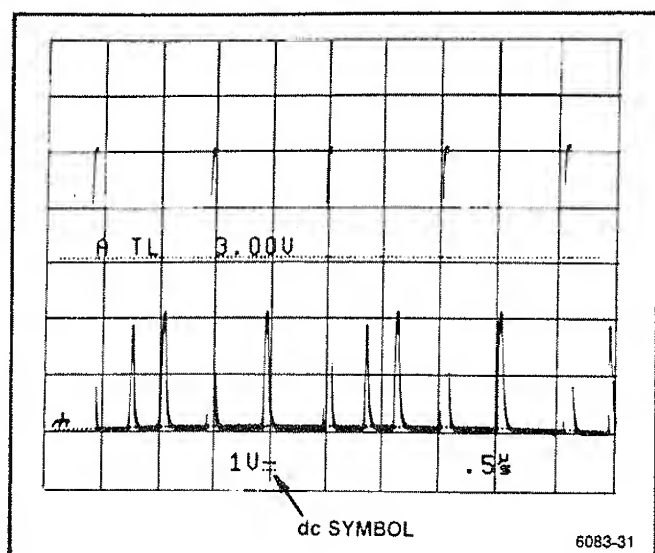

Figure 6-17. Setting a specific Trigger LEVEL.
1. The signal to be examined is a mix of two different signal levels (see Figure 6-17).
Set the VOLTS/DIV control so that the displayed signal will have a good viewing amplitude. For the assumed signal shown in Figure 6-17, a setting of 1 V/div will produce a four to five division display amplitude. Position the ground cursor (using the VERTICAL POSITION control) at about two graticule divisions below the center graticule line. (For negative-going signals, two divisions above the center graticule would about center the display; and for bipolar signals, centering the ground trace is appropriate.)